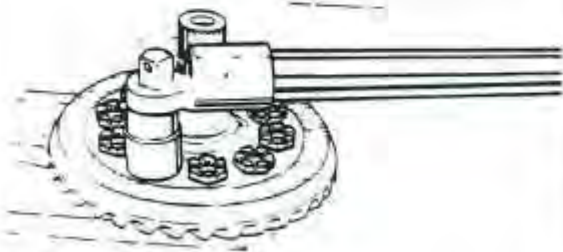

Fig. 33
2. Remove the carrier bearing from ring gear side of the differential using a suitable puller. If it is necessary, remove some of the ring gear bolts to aid in the installation of the puller. (Fig. 33)